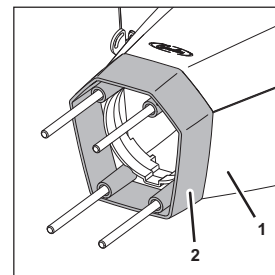

Fig. 19
- Remove the stand booster (Fig. 19/2) from the stand (Fig. 19/1) of the unit.